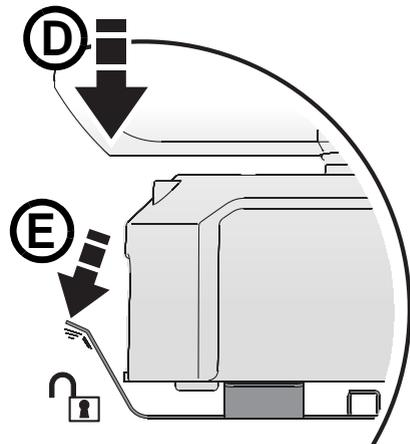

Figure 6: Releasing the fixture
2. See Figure 6. Press the fixture firmly towards the bracket (see **D**) and support the weight of the fixture.